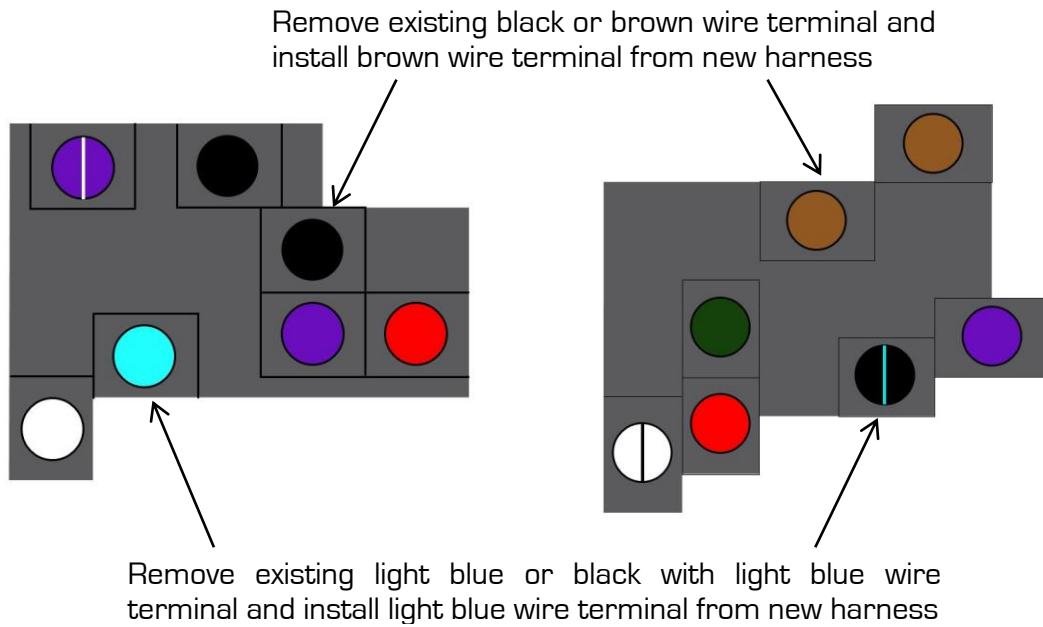
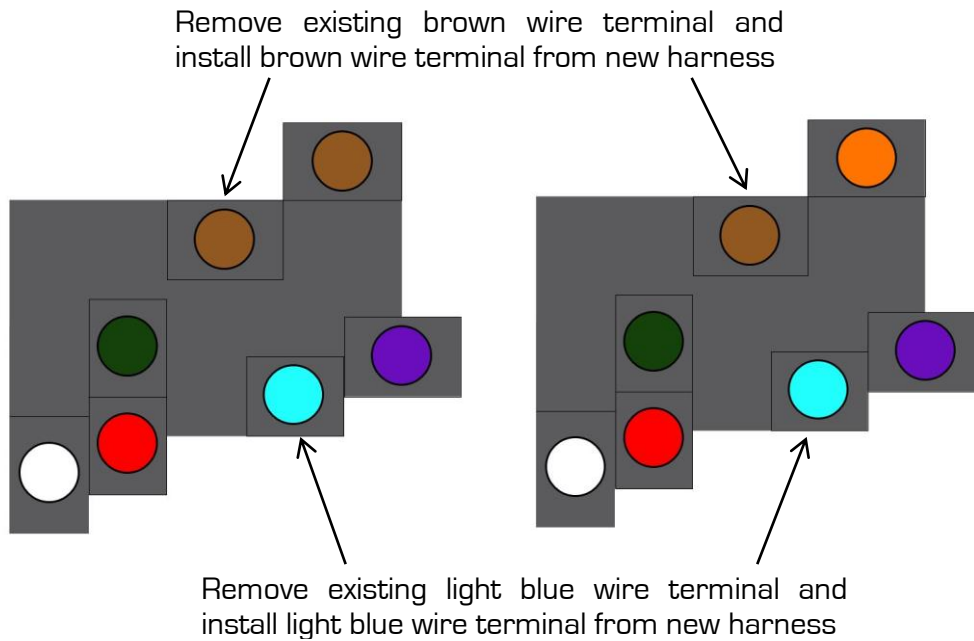

Figure 6 – End View (Harness Side)
Figure 8 – End View (Harness Side)
14. For 1963 applications, see Figure 6. For 1964 to early 1965 applications, see Figure 7. For late 1965 to 1966 applications, see Figure 8 and for 1967 applications, see Figure 9.